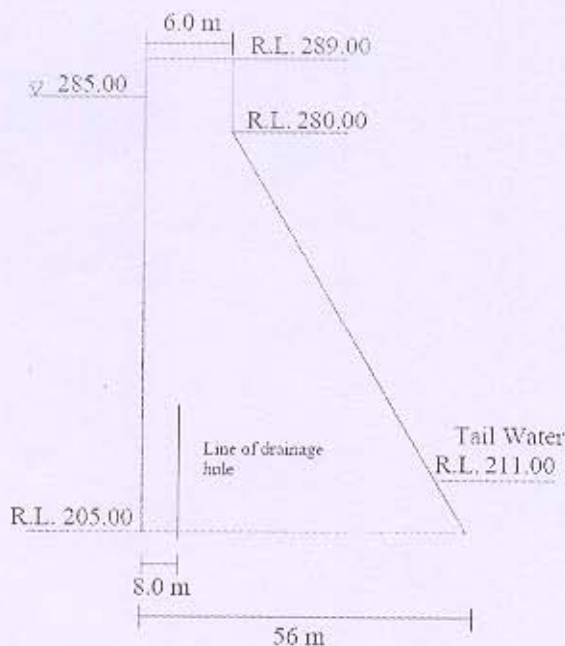

Figure 1
- Q - 5 (a) Figure 1 shows the section of a gravity dam. Calculate the water pressure, self weight and uplift pressure of a dam with detail pressure distribution diagrams of each one. [07]